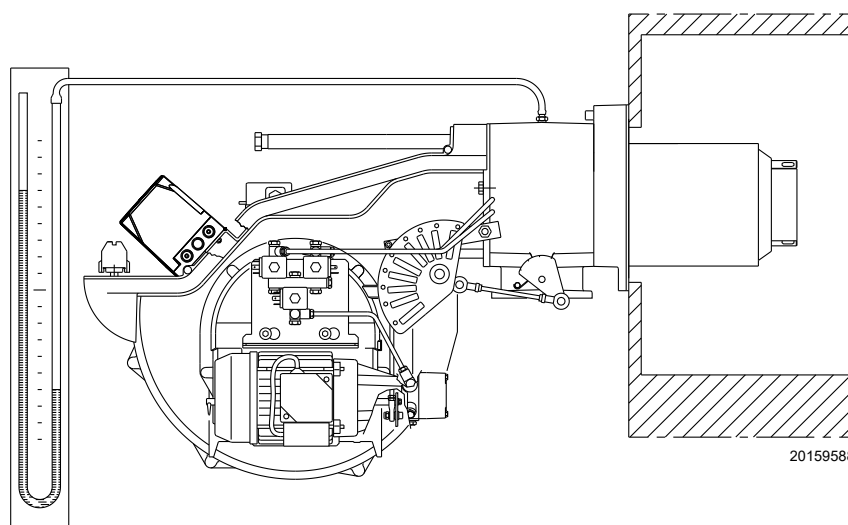

Fig. 37
- Fit a U-type pressure gauge or a differential pressure gauge (Fig. 37), with socket (+) on the gas pressure of the pipe coupling and (-) in the combustion chamber.
The arrival of gas to the sleeve is indicated by the U-type pressure gauge (Fig. 37).
A rough indication can be obtained from Tab. L on page 28, just read the gas pressure on the "U" pressure gauge (see Fig. 37 on page 33) and follow the indications.